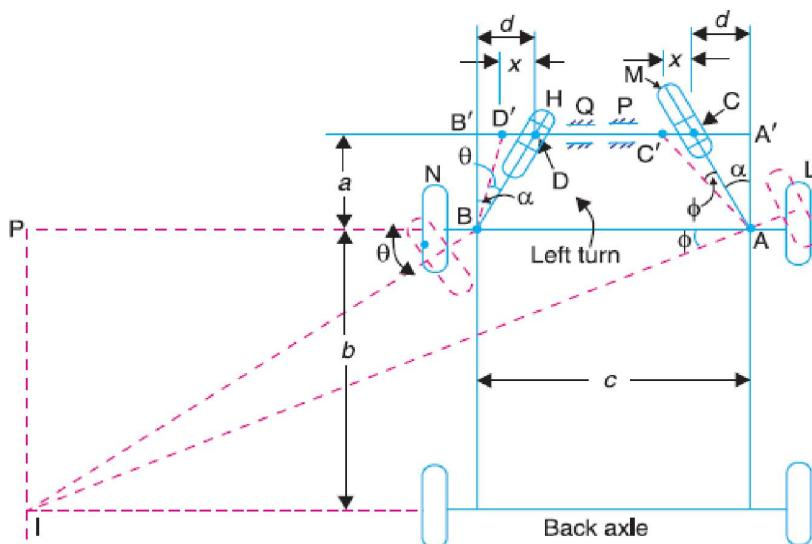

Fig. 4.11 Devis steering gear mechanism
- The top and front views connecting the two shafts by a universal joint are shown in Fig. 4.11. Let the initial position of the cross be such that both arms lie in the plane of the paper in front view, while the arm AB attached to the driving shaft lies in the plane containing the axes of the two shafts.